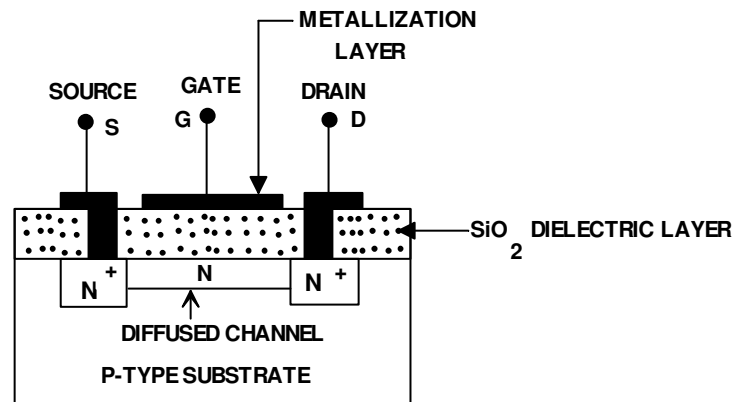

Fig. 42.1 N-CHANNEL DE-MOSFET STRUCTURE
**Marks (10)**
**Ans: Construction of N-Channel Depletion MOSFET:** Fig. 42.1 shows the construction of N-channel depletion MOSFET. It consists of a highly doped P-type substrate into which two blocks of heavily doped N-type material are diffused forming the source and drain. An N-channel is formed by diffusion between the source and drain. The type of impurity for the channel is the same as for the source and drain. Now a thin layer of  $\text{SiO}_2$  dielectric is grown over the entire surface and holes are cut through the  $\text{SiO}_2$  (silicon-dioxide) layer to make contact with the N-type blocks (Source and Drain). Metal is deposited through the holes to provide drain and source terminals, and on the surface area between drain and source, a metal plate is deposited. This layer constitutes the gate.  $\text{SiO}_2$  layer results in an extremely high input impedance of the order of  $10^{10}$  to  $10^{15}$  ohms for this area.